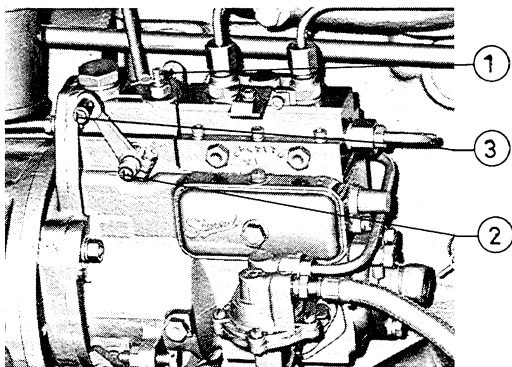

Fig. 6 1 Governor lever (mounted between the injection pump and the engine block)
- 3 Set the governor lever in the centre position, fig. 6. No. 1.
- 4 Press the button on the pump for extra starting fuel, fig. 6. No. 2.
- 2 Stop the engine by moving the stop lever, fig. 6, No. 3, astern.